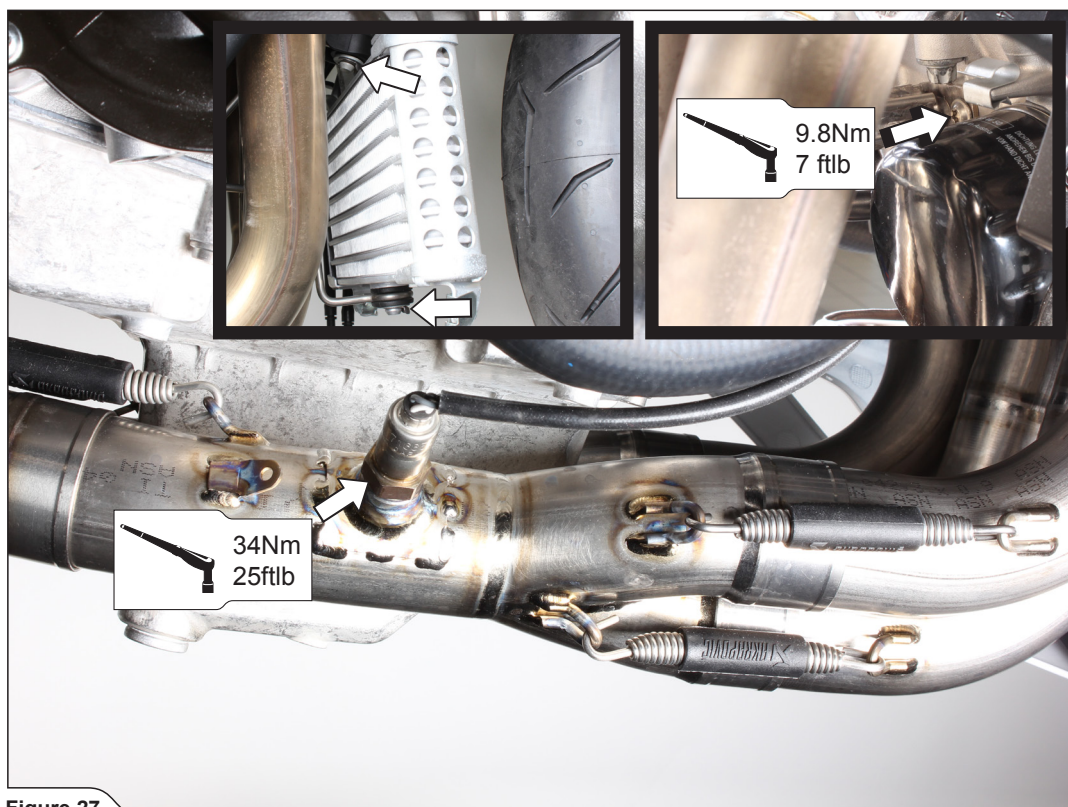

Figure 27
5. Tighten both lambda sensors into the collectors and reinstall radiator bracket in the reverse order from the order in which they were removed (**Figure 27**).